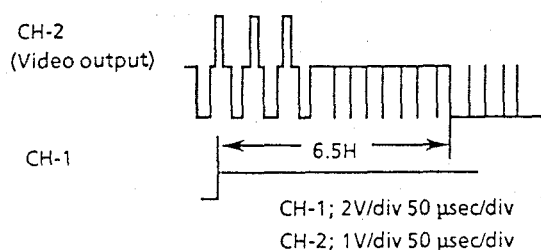

Figure 2-3.
3. Adjust R701 (phase generator M.M.) so that the waveform on the oscilloscope screen be as shown Figure 2-3.